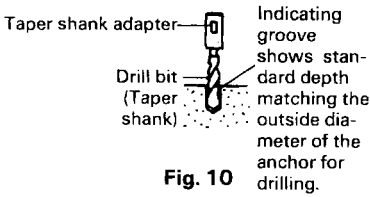

Fig. 10
2. When a taper shank adapter is used. (Fig. 10)